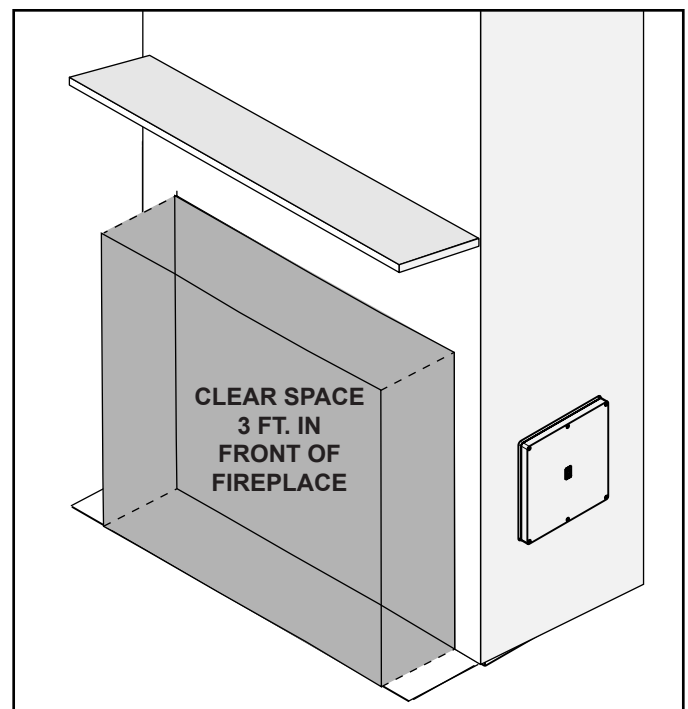

Figure 3.1 Clear Space Requirement - All Models
**WARNING! DO NOT place combustible objects in front of the fireplace. High temperatures could start a fire. See Figure 3.1.**